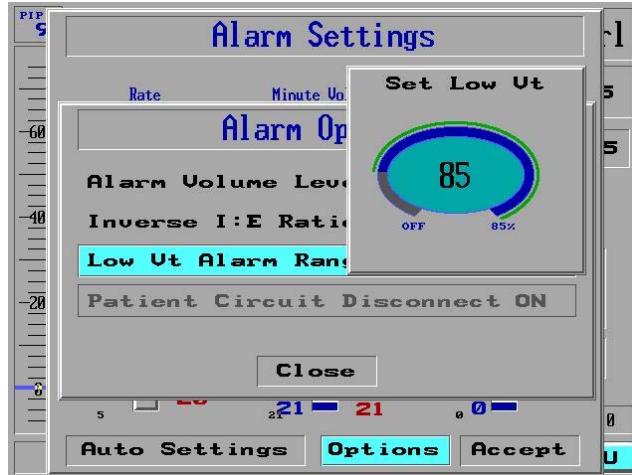

Figure 145: The Low Tidal Volume Alarm Range Pop-Up Window
- Press the Control Knob. The **Set Low Vt** pop-up window appears (Figure 145).